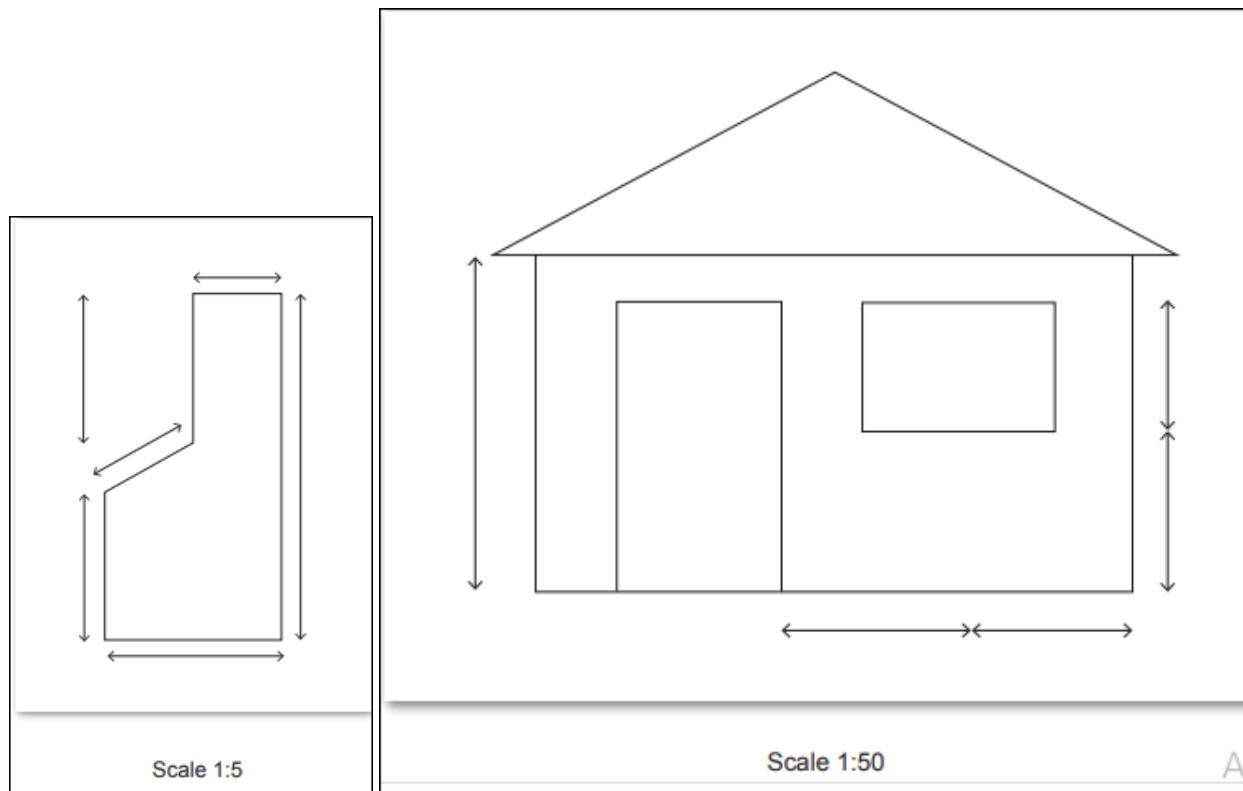

Figure.1: missing dimension on Drawing
3. Using rule measure the missing dimension indicated by the arrows on the drawing(see Figure.1).